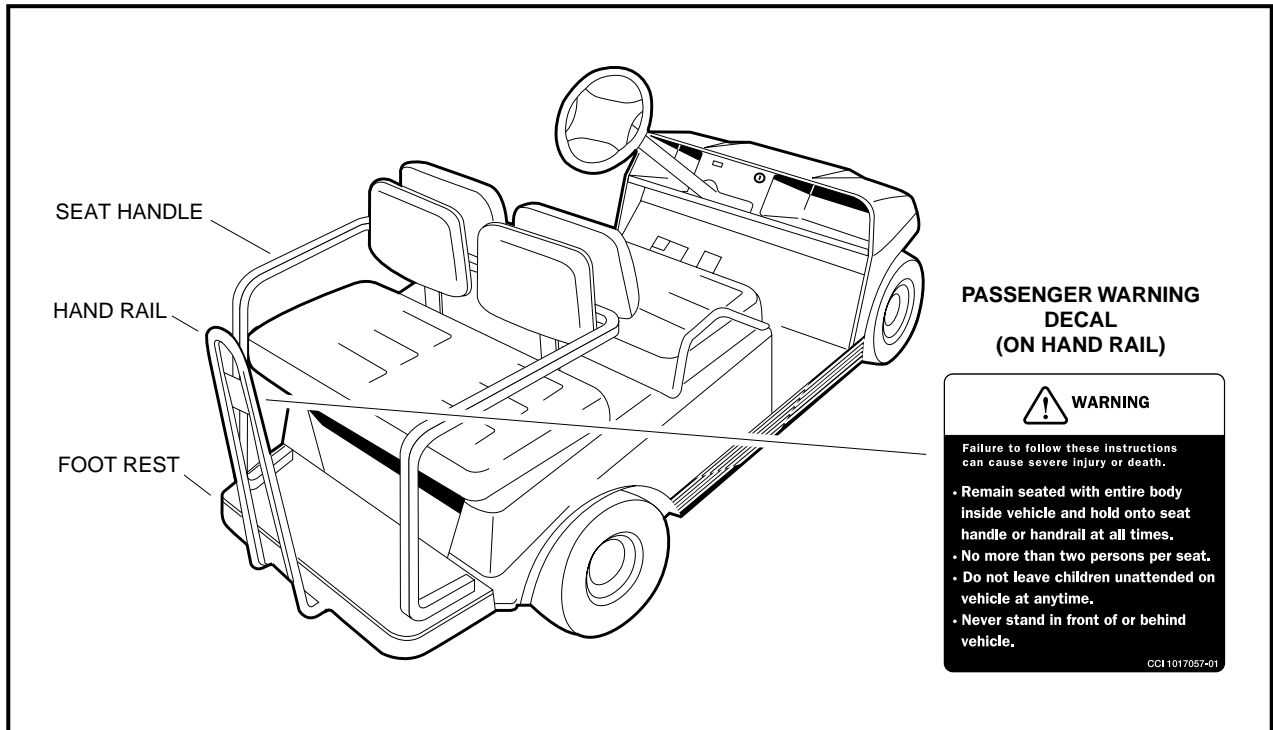

Figure 17 Fairway Villager
- PASSENGERS SHOULD HOLD ON TO SEAT HANDLES OR HAND RAILS AT ALL TIMES (**FIGURE 17, PAGE 27**). DRIVER SHOULD KEEP BOTH HANDS ON THE STEERING WHEEL WHILE VEHICLE IS MOVING.